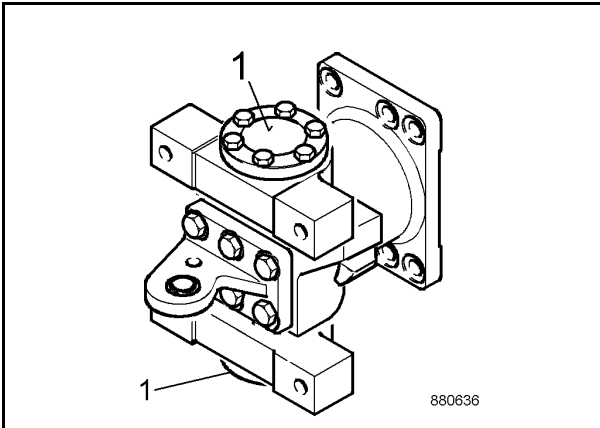

Fig. 1
1. Disassemble both bearing covers 1 (Fig. 1).